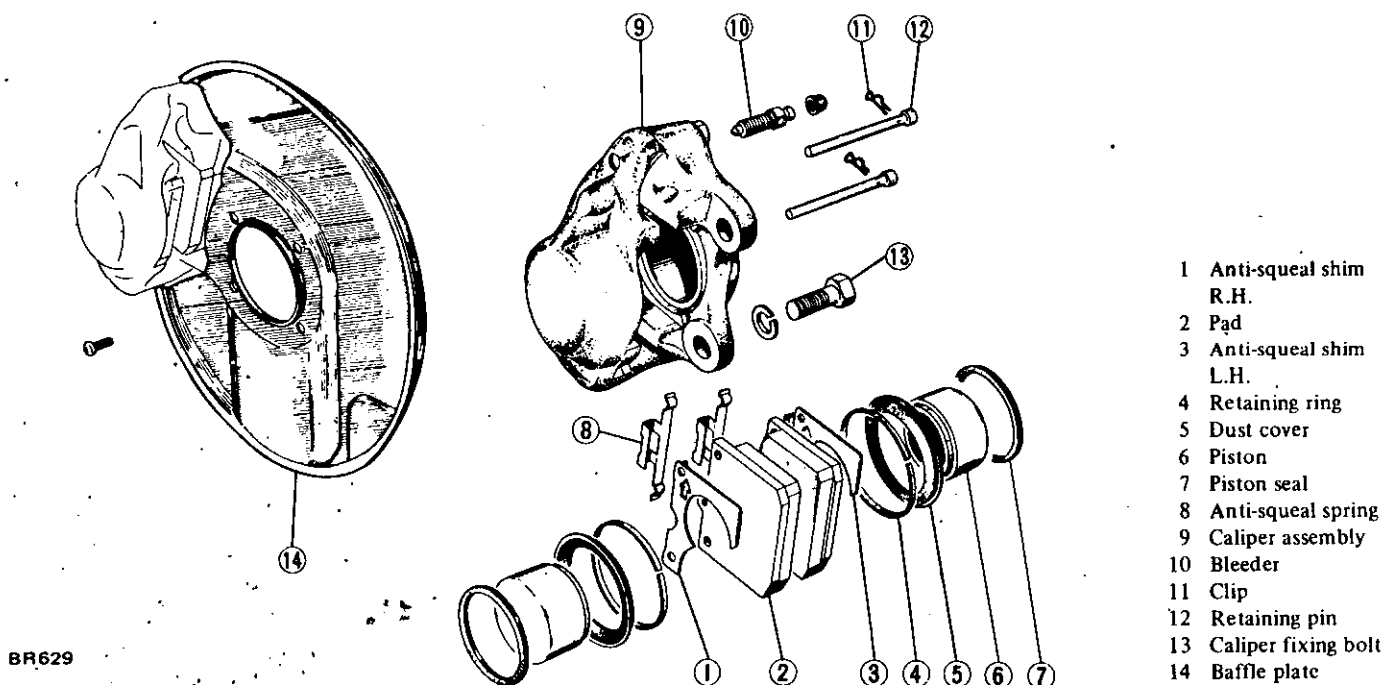

Fig. BR-12 Front disc brake
2. Remove retaining ring ④ and dust cover ⑤ in that order. (Refer to Figure BR-12.)